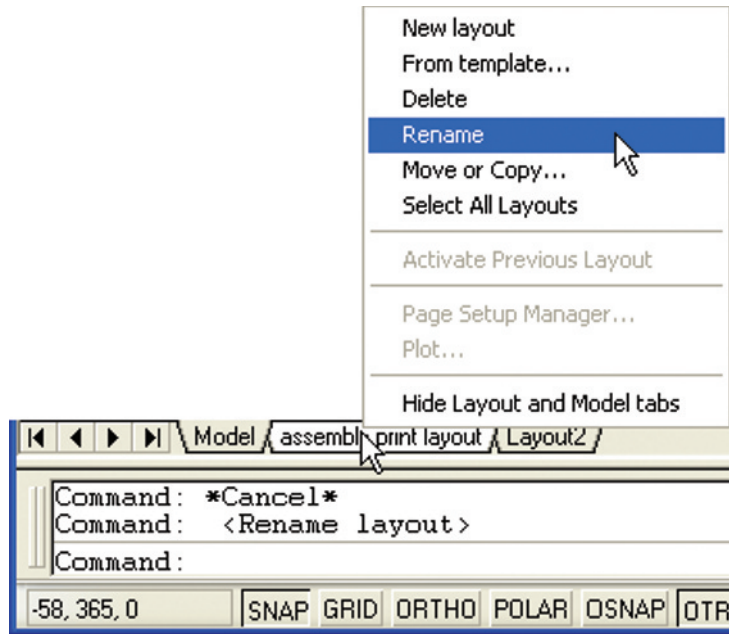

Fig. 19.6 First example
3. *Right-click* on the **Layout1** tab and *click* **Rename** in the menu which appears. *Enter* a new name in the **Layout1** tab (Fig. 19.6).